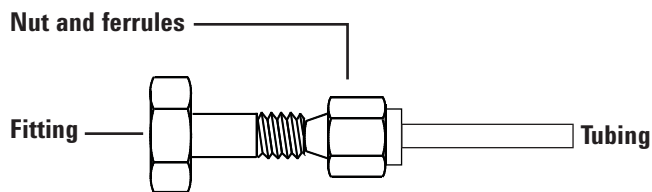

Figure 21. Assemble the fitting
- 2 Push the tubing towards the base until it rests firmly against the shoulder in the fitting, and make sure that the front ferrule is touching the fitting. Slide the Swagelok nut over the ferrule and thread it onto the fitting (**Figure 21**).